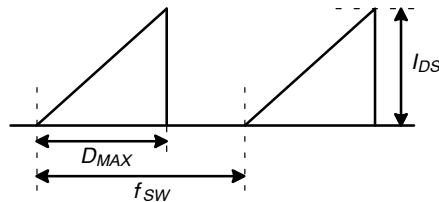

Figure 4. Repetitive Peak Switching Current
6. Repetitive peak switching current when the inductive load is assumed: Limited by maximum duty (DMAX = 0.83) and junction temperature (see Figure 4).